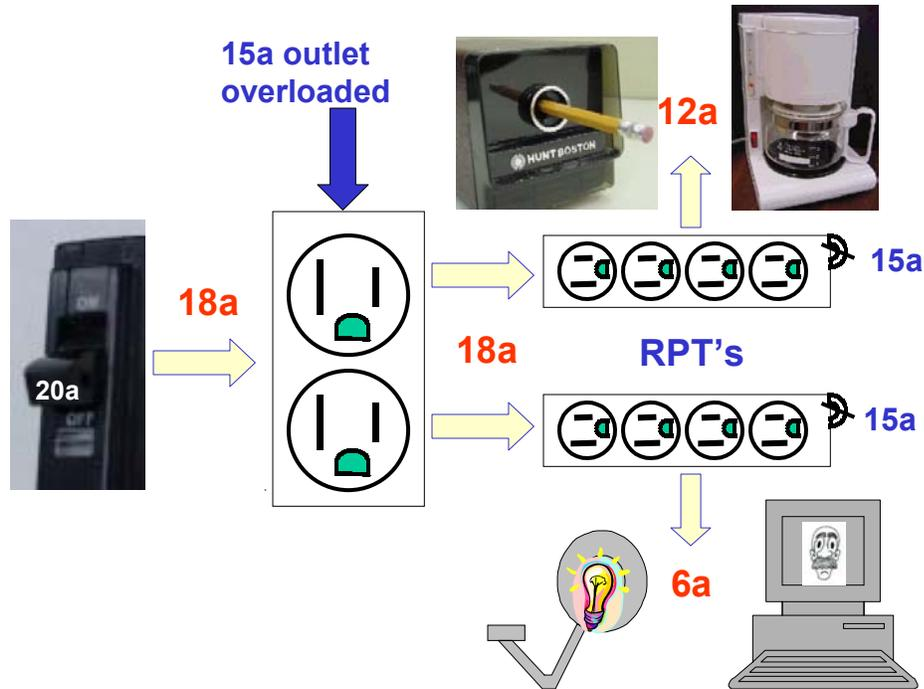

Figure 1
OSHA 1910.304 (b) (2) & NEC 210-21 Outlet devices shall have an ampere rating not less than the load to be served. Also NEC 210-21 (b) (2) and NFPA 70 E Part I chapter 2-2.5 (b) (2) generally limits the maximum cord and plug connected load to branch circuit receptacles to 12 amperes or 1440 watts for a 15-ampere receptacle. This is easily exceeded with the use of heavy appliances but not with the lighter loads such as computer peripherals and other equipment listed for intended use in the UL white book for RPT's. Figure 1 illustrates the overloading of a 15 amp receptacle outlet on a 20 amp branch circuit where RPT's are used to allow excessive loads to be connected to